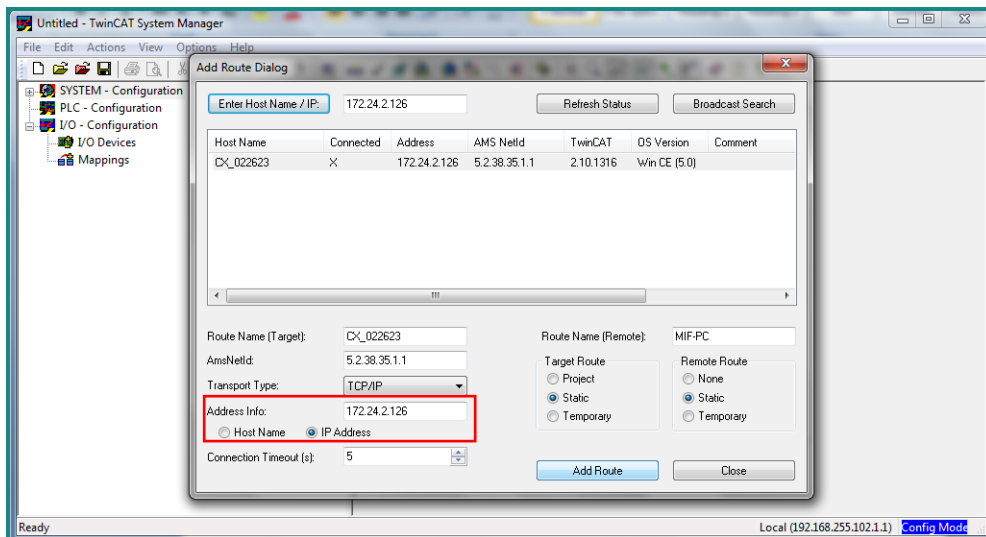

Figure 6 TwinCAT Add Route Dialog Screen
6. If this is the first time to connect to this route and no “X” appear in the “Connected”, please see Figure 6